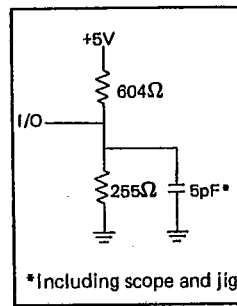

Figure 2.
2. The parameter is tested with the load in Figure 2. The transition is measured at $\pm 200\text{mV}$ from steady state voltages.